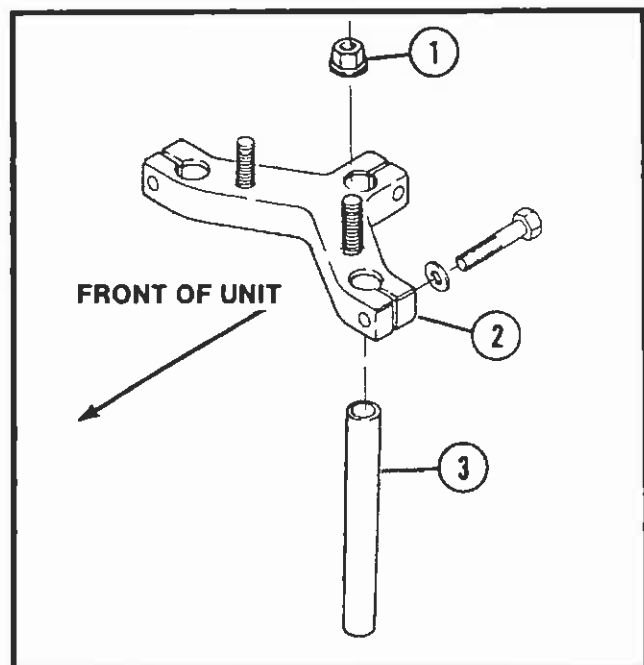

FIGURE 1
3. Insert three (3) tines per holder and tighten screws securely. BE SURE tines are tight against shoulder of tine holder.
4. Attach tine holders to tine rams and secure with two (2) flangelock nuts. See Figure 1.